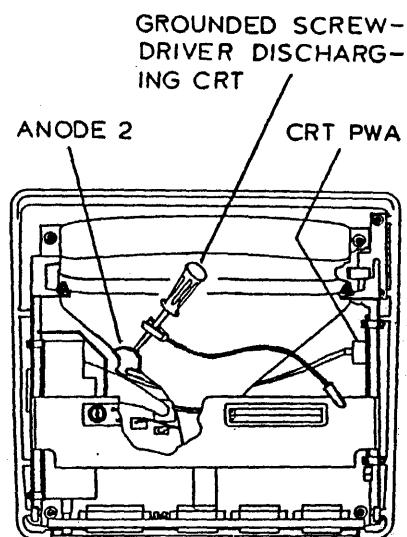

Figure 3-2 DISCHARGE CRT
3. Discharge high voltage on CRT (anode 2) shorting to frame. This is done by using meter lead, alligator clip, and screw driver as shown in fig. 3-2.
4. Discharge high voltage on CRT (anode shorting to frame). (fig. 3-2)
6. If 820/820-II then remove (2) attaching support block for Daught Remove Daughter PWA from process
7. Remove (4) screws from the proces and remove by sliding out of the processor.